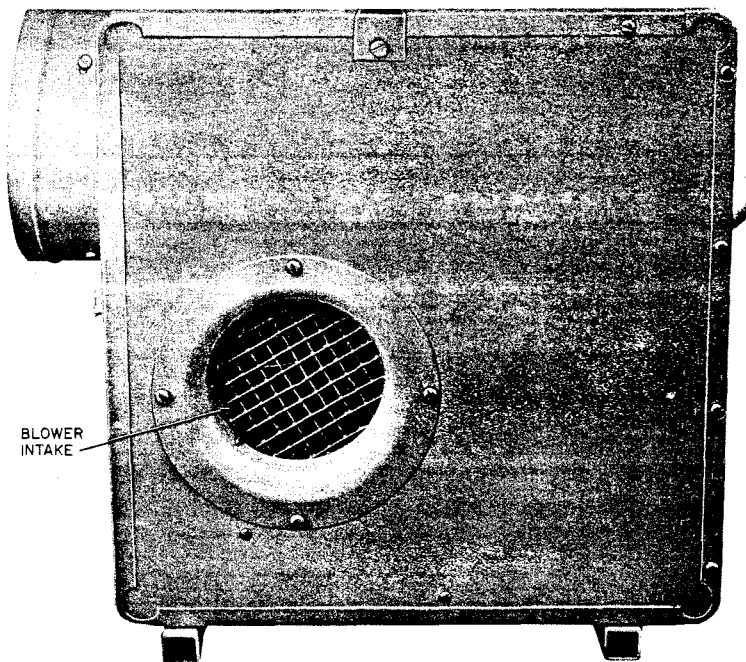

Fig. 5—Blower Intake for PEG-8A
- 3.09 Do not cover the blower air intake screen, or in any way restrict the flow of air into the blower. (Fig. 5).